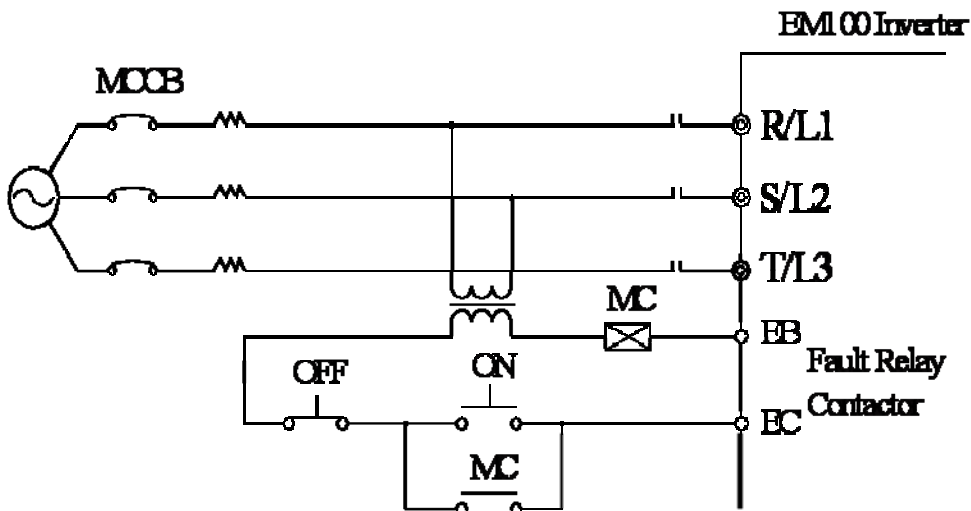

Figure 3-6 Connecting to Input Circuit Breaker
- If single MCCB is used for two or more inverters or other devices, the contact of fault output relay shall be connected to power contactor coil, so that the power supply will be turned off by the fault signals, as shown in Figure 3-6.
Install an electromagnetic contactor which is applicable to inverter power as shown in Figure 3-6.